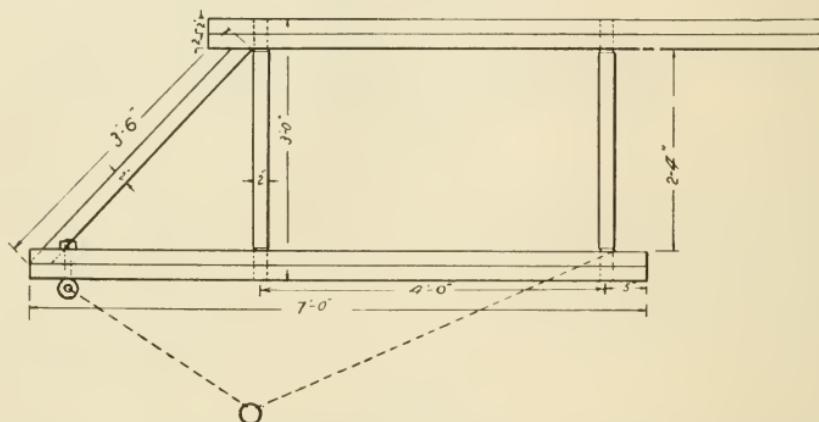

FIG. 65.—WORKING DRAWING OF PLANK DRAG.
3. **Laying out holes.** — Lay out the holes in the $2'' \times 4''$ pieces before spiking them to the $2'' \times 8''$ pieces so that you will not drive a spike where a hole should be. Figure 65 indicates where the holes should be bored.